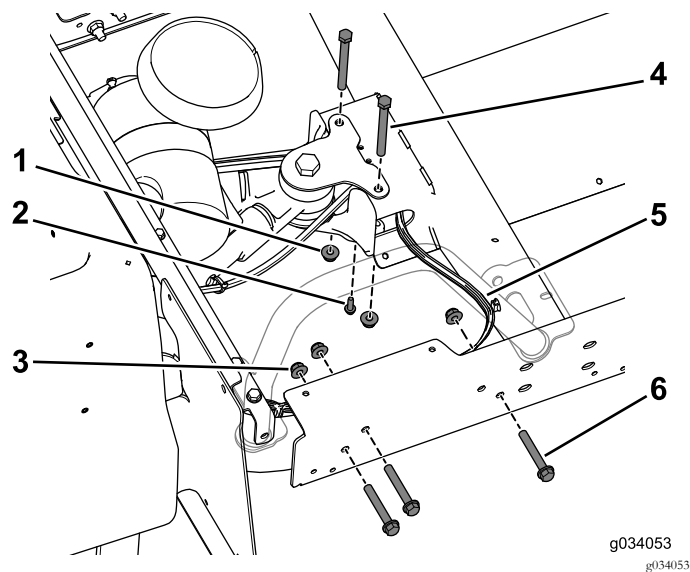

Figure 28
8. Use the 3 bolts (3/8 x 2-1/2 inches) and flange nuts to loosely install the extension rail to the rear frame (Figure 28). Do this on both sides of the machine.
Note: Ensure that the wire harness exits the center channel on the right side (Figure 28).
9. Use the self-tapping screw (1/4 x 3/4 inch) to attach brake line tee to the center channel (Figure 28).
10. Use the 2 bolts (3/8 x 3-3/4 inches) and flange nuts to loosely install the center channel to the rear mount (Figure 28).